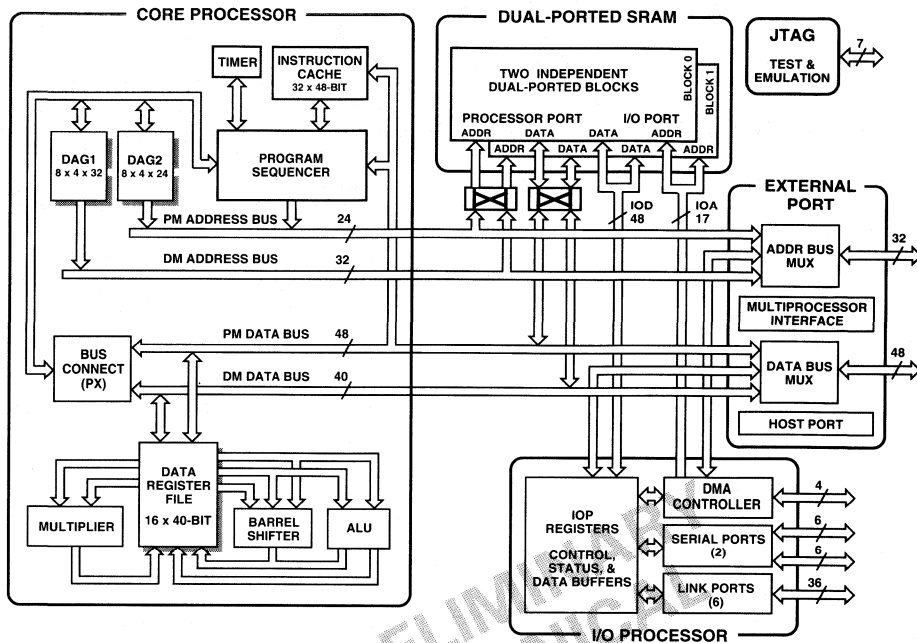

Figure 1. ADSP-21060/ADSP-21062 Block Diagram
Figure 1 shows a block diagram of the ADSP-2106x, illustrating the following architectural features:
The ADSP-2106x features an enhanced Harvard architecture in which the data memory (DM) bus transfers data and the program memory (PM) bus transfers both instructions and data (see Figure 1). With its separate program and data memory buses and on-chip instruction cache, the processor can simultaneously fetch two operands and an instruction (from the cache), all in a single cycle.